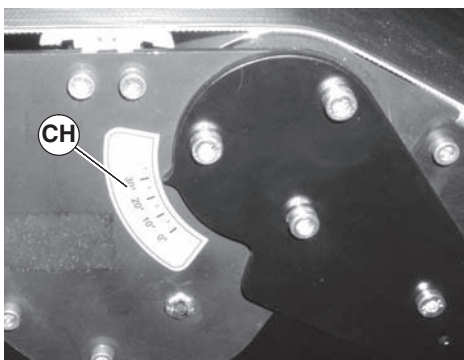

Figure 56
3. Move conveyor to desired angle as indicated by angle label (Figure 56, item CH).